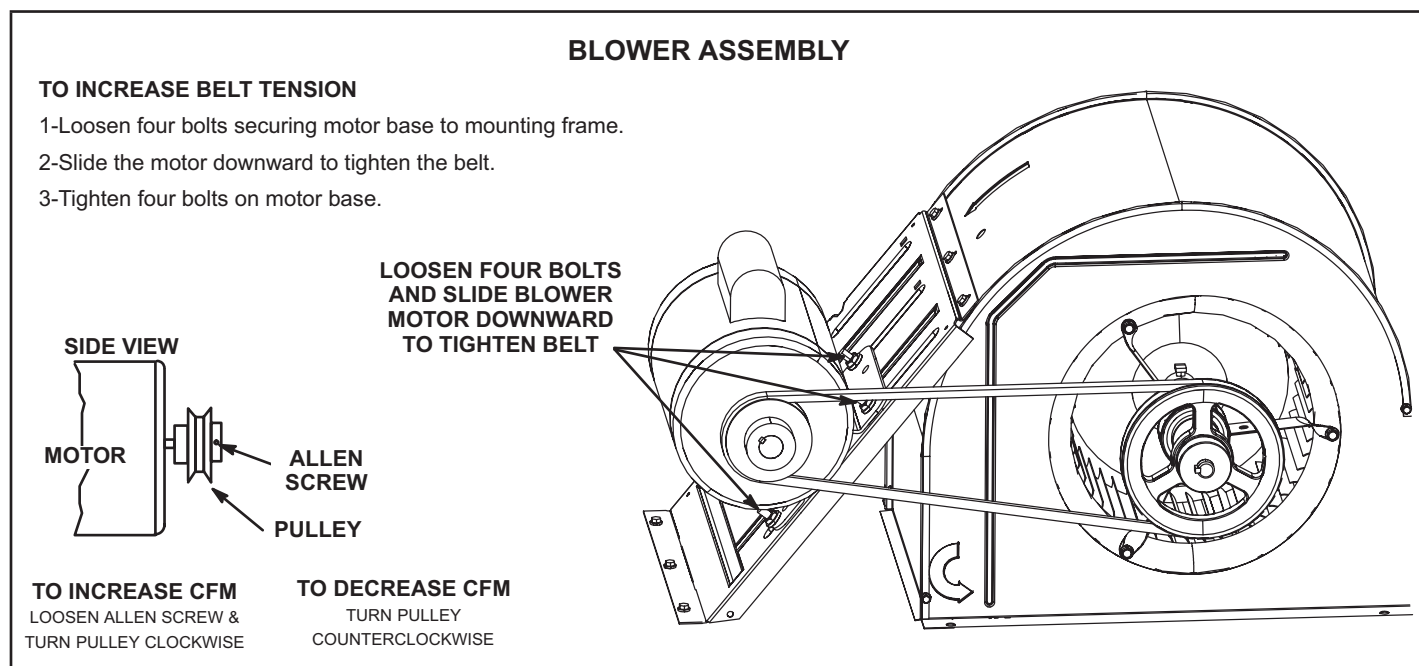

FIGURE 10
- 3 - The blower RPM can be adjusted at the motor pulley. Loosen Allen screw and turn adjustable pulley clockwise to increase CFM. Turn counterclockwise to decrease CFM. See FIGURE 10. Do not exceed minimum and maximum number of pulley turns as shown in TABLE 10.
- 1 - Loosen four bolts securing motor base to mounting frame. See FIGURE 10.
Flame rollout limit switch S47 is a SPST N.C. high temperature limit located just above the burner air intake opening in the burner enclosures (see figure 10). S47 is wired to the ignition control A3. When S47 senses flame rollout (indicating a blockage in the combustion air passages), the flame rollout limit trips and the ignition control immediately closes the gas valve.